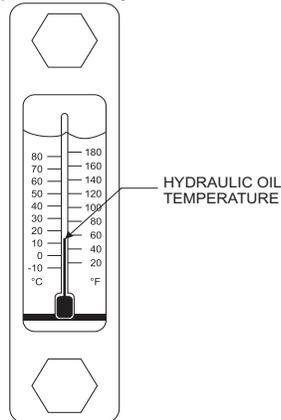

Figure 29. Hydraulic Oil Temperature Gauge
- Let the pump cycle until the hydraulic oil temperature (Figure 29) is approximately 50° to 60° F.